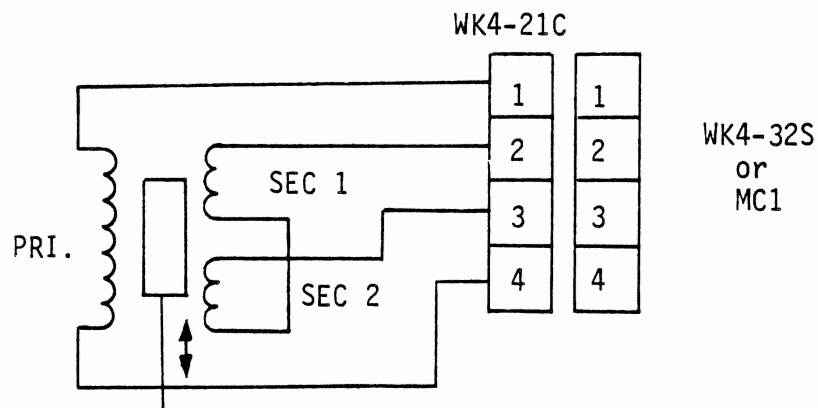

Figure 3-3. Transducer Connections for LVDT Operation.
A. Connect transducer as shown in Figure 3-3. Position jumper E1 (2-ARM/4-ARM jumper) to the 2-ARM position. If output voltage is greater than 166 mV/V, place jumper E3 (VAR REL. STR. GAGE/LVDT INPUT jumper) in the B position. For inputs less than 166 mV/V place jumper E3 in the A position.